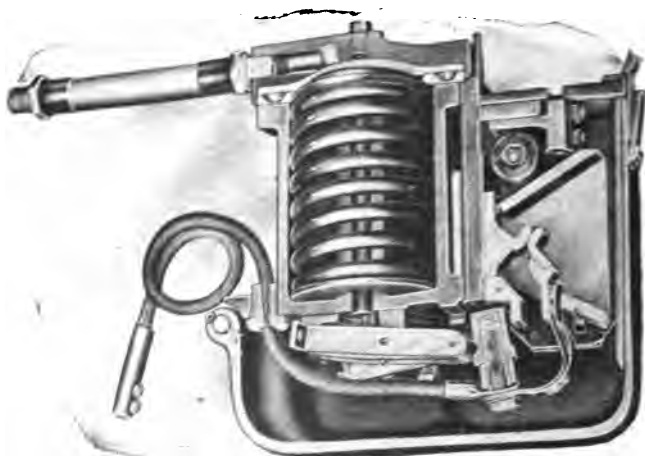

Fig. 520. Sectional View Air Pump Governor.
73. PUMP GOVERNOR (Fig. 520) is located in "A" compartment on side opposite No. 2 reverser. The